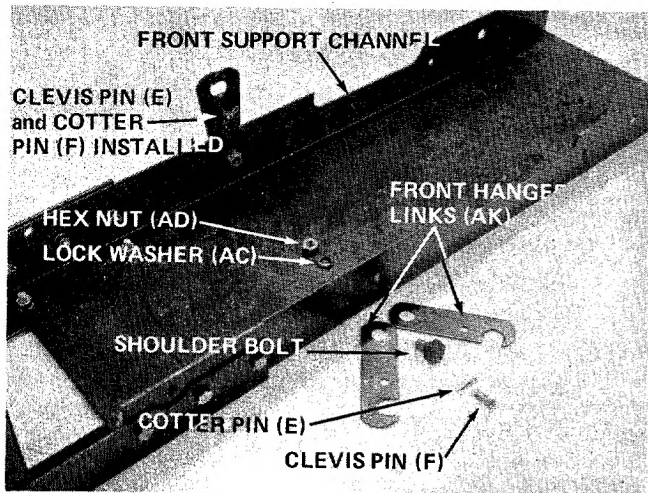

FIGURE 11
8. Assemble the front hanger links (AK) to the front support channel. Insert shoulder bolt (AB) through large hole on hanger links (AK), then through the front support channel. Secure with lock washer (AC) and hex nut (AD). See figure 11. Insert clevis pin (F) through small hole in front hanger links (AK) to hold them in position. Secure with cotter pin (E). See figure 11. Cotter pin and clevis pin will be removed later.